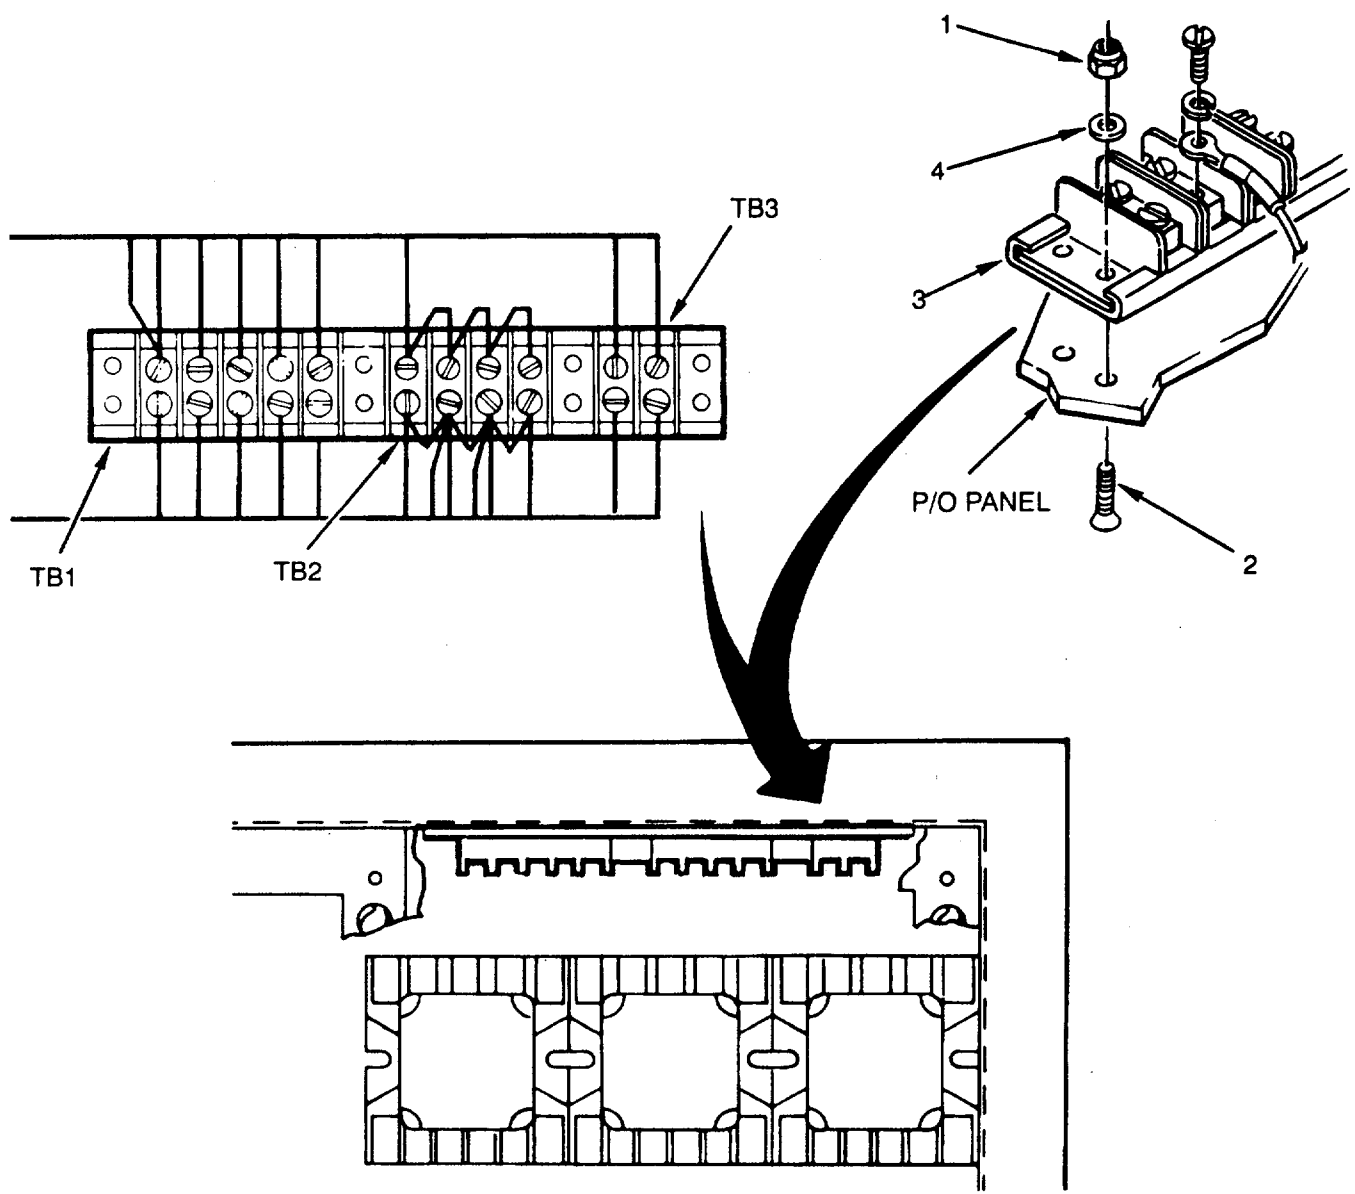

Figure 4-64. Terminal Boards (TB1-TB3).
1. Check terminal boards for loose or corroded terminals, cracks and obvious damage. Replace terminal board, if cracked or broken (see Figure 4-64).